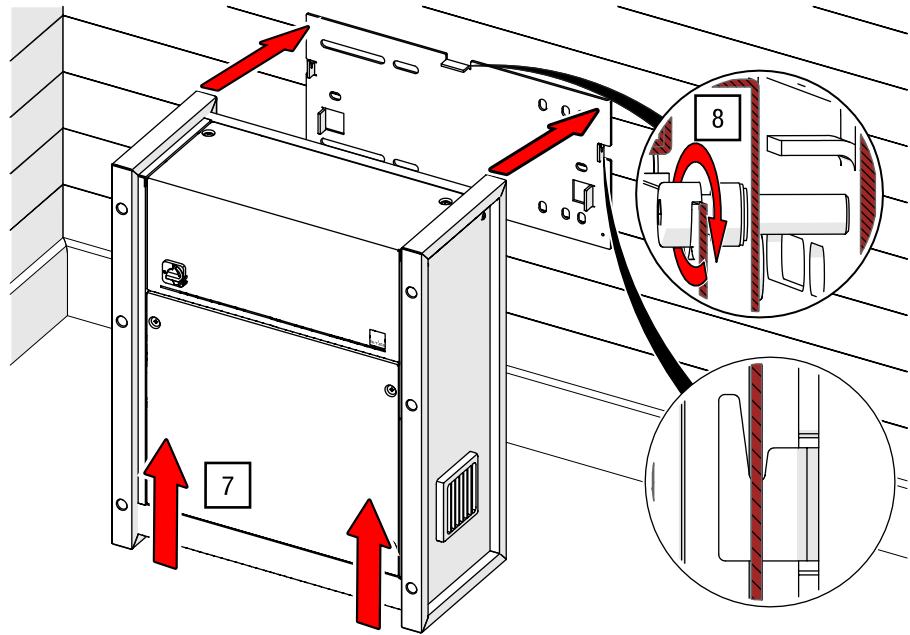

Fig. 92: Secure control unit to wall mounting plate (control unit model may vary)
7. Set up the control unit and hang it with the designated slots on the rear into the two hooks of the wall mounting plate already pre-assembled on the wall (see Fig. 92).
8. Lift off the control panel and secure the control unit to the wall mounting plate with an M8 x 30 socket head cap screw (see Fig. 92).